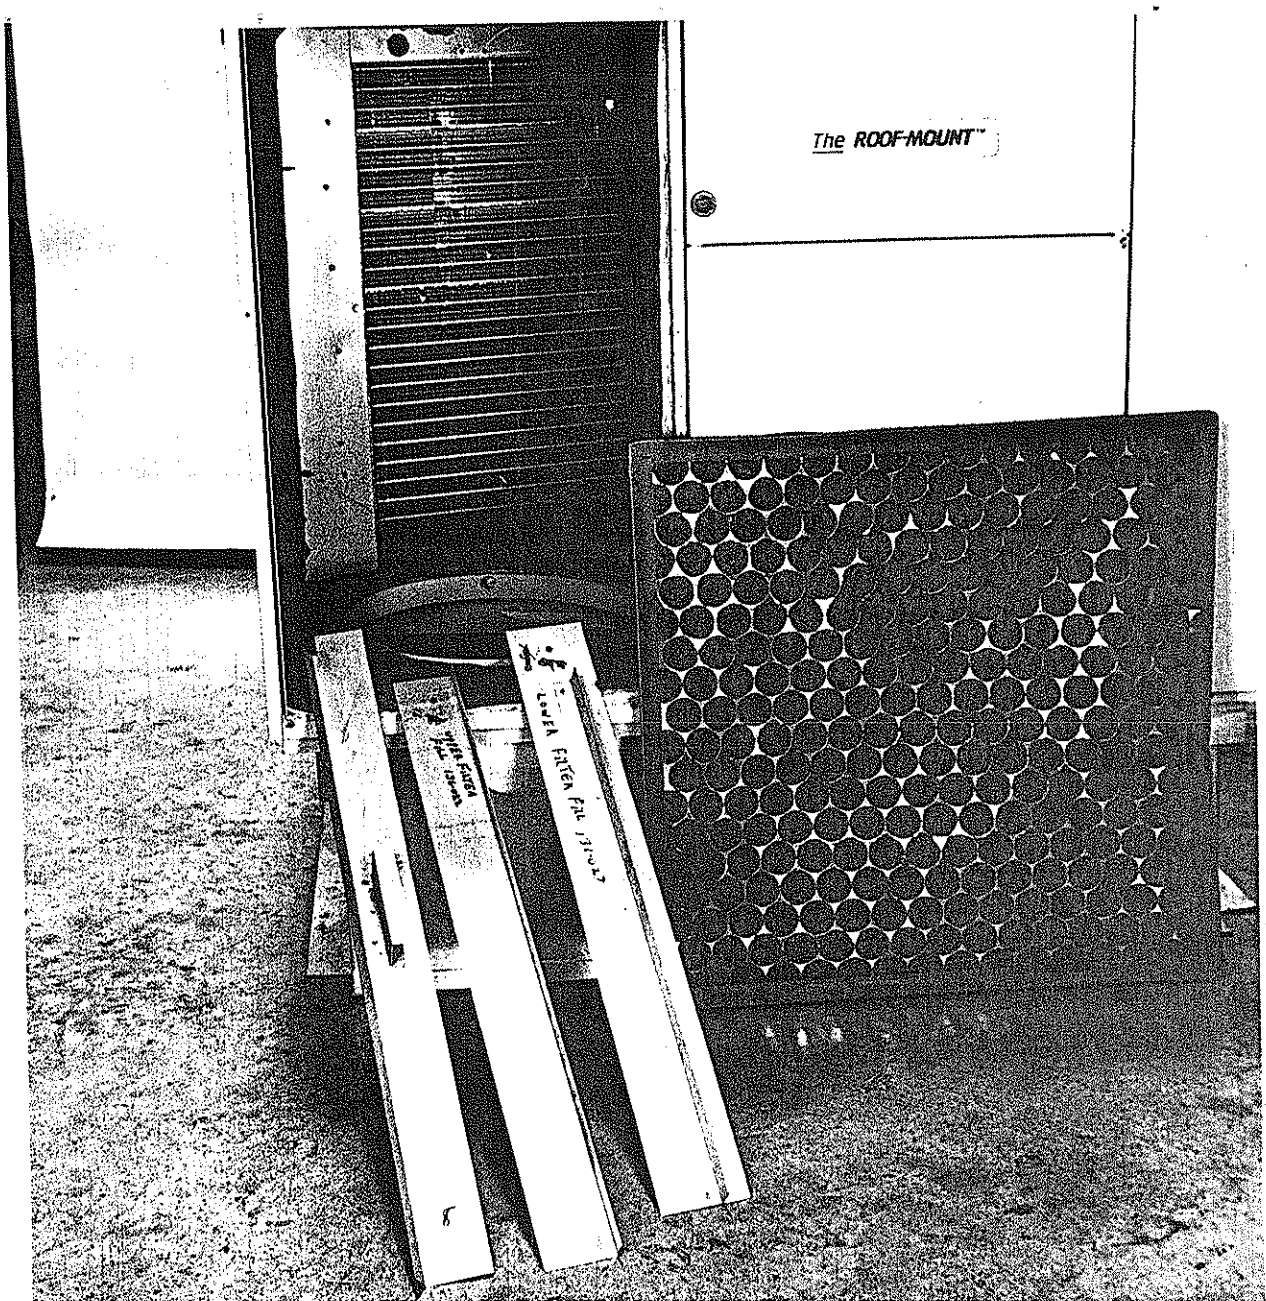

Figure 2.
3. Remove and discard the existing unit return air filter and filter rack (see Figure 2). Remove the two (2) hex head screws to the far right in the unit side wall above the condensate drain outlet. Do not remove the screws to the left as this will result in evaporator coil damage.